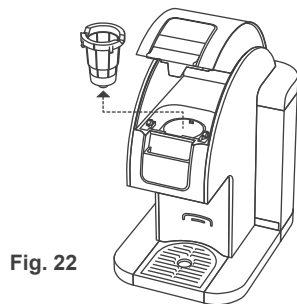

Fig. 22
1. Open the Cover, and remove the Red Cup Holder from the brewer by pulling on it. (Fig. 22)